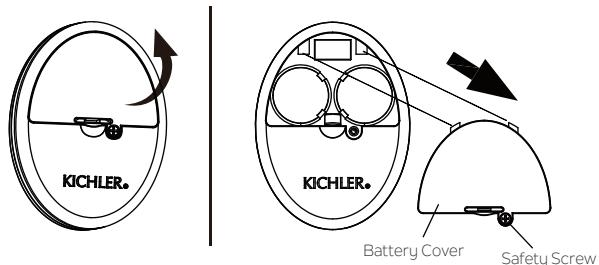

Fig. 30
Step 1. Remove the safety screw and the battery cover from the back of the transmitter. Retain safety screw. (**Fig. 30**)